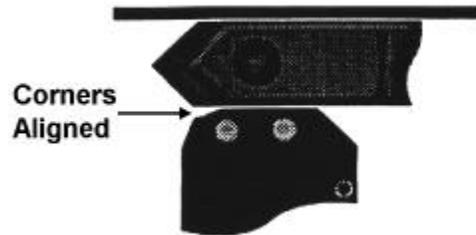

Figure 5-2. Far Tunnel Final Position for Shuttle Timing Procedure
3. Place a second shuttle to the right of the center island, with its small post also to the right. Then push this shuttle into the far tunnel, large post end first, until the edge aligns with the exit angle on the center island as shown in Figure 5-2.